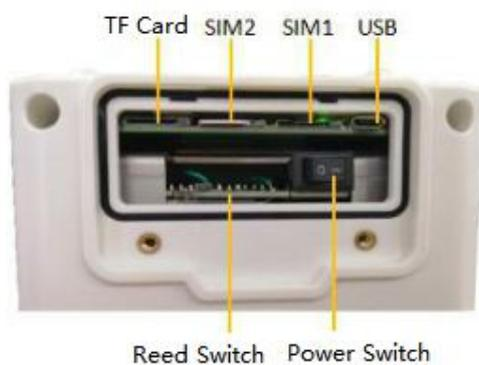

Figure 7.
- 2) Activate the device WiFi hot spot (Name: F-PLS200_*****, where ***** is the factory number) by using the magnet near the reed switch (as shown in Figure 7)